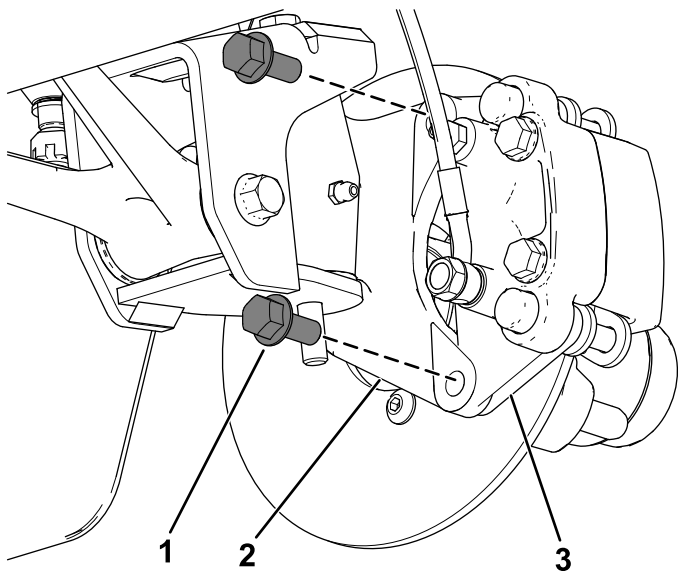

Figure 35
3. Remove the flange-head bolts (3/8 x 3/4 inch) that secure the bracket for the brake assembly to the spindle and separate the brake from the spindle (Figure 35).
2. Align the brake pads to either side of the rotor (Figure 35) and the holes in the caliper bracket with the holes in the brake mount of the spindle frame (Figure 39).
3. Secure the caliper bracket to the spindle frame (Figure 35) using the 2 flange-head bolts (3/8 x 3/4 inch).